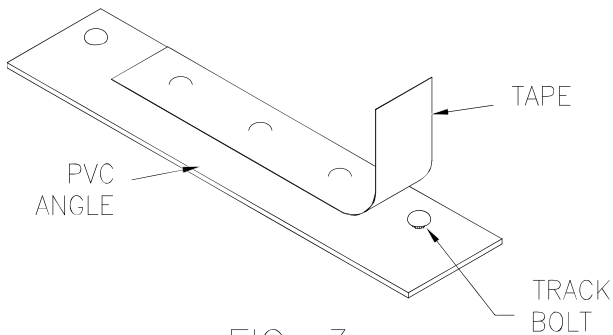

FIG. 3
- b. Tape back side to hold track bolts in place (Fig. 3)